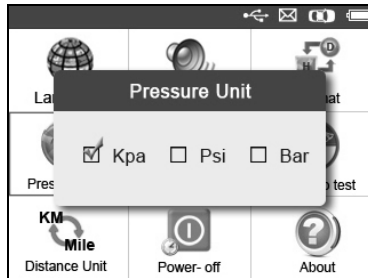

Figure 3.6
- 2) From **Pressure Unit** screen, use the **LEFT/RIGHT** scroll button to select the desired unit: **kPa**, **Psi** or **Bar**. (Figure 3.6)